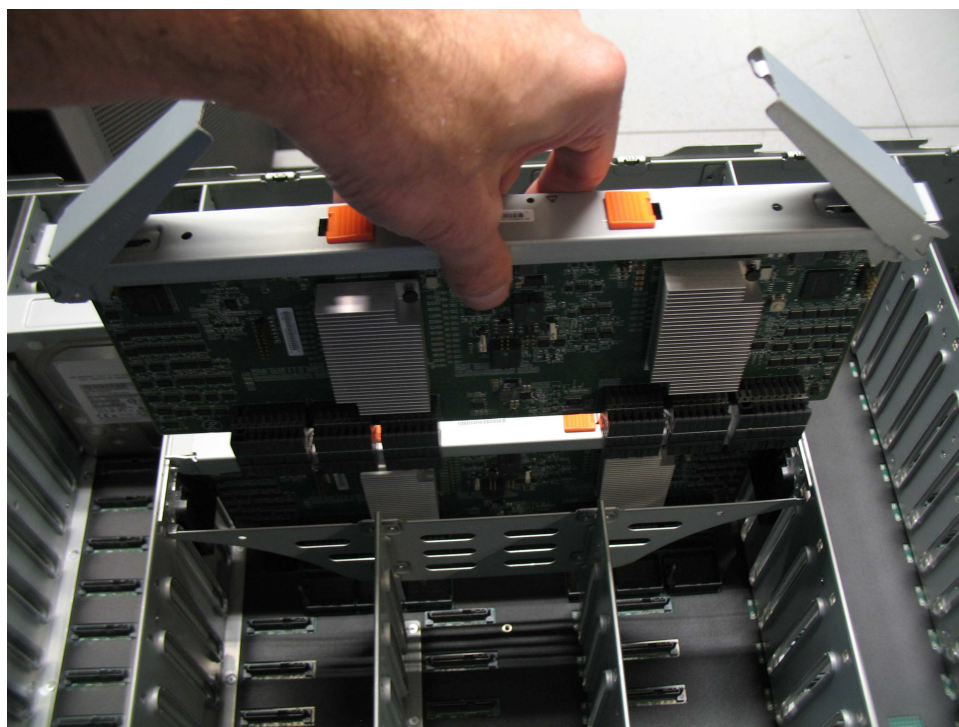

Figure 112. Remove the secondary expander module
4. Carefully lift the secondary expander module out of the enclosure, as shown in Figure 112.